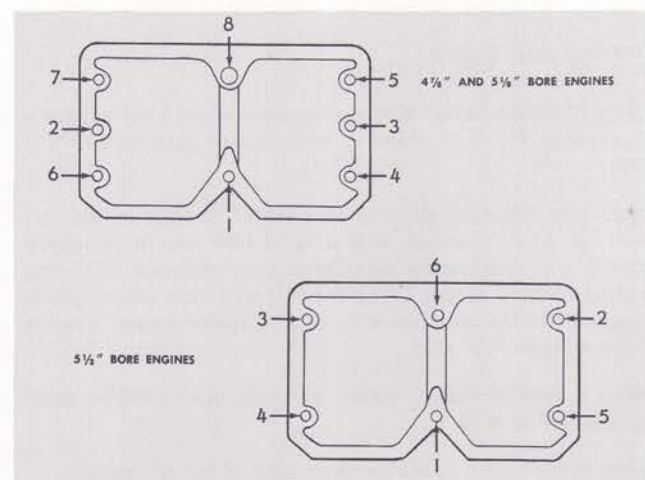

Fig. 4-16. Rocker housing capscrew tightening sequence N11463
13. Replace and tighten rocker housing capscrews to 55 to 75 ft. lbs. in sequence shown in Fig. 4-16.